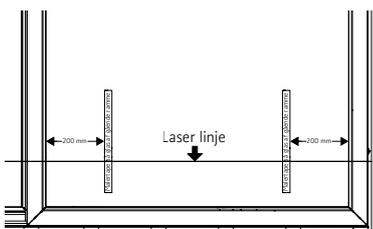

Figure 8: Laser position 0 – apply tape to sash
13. Set up a laser outside, projecting across the full width of the frame – approximately 100 mm up on the glass (figure 8).